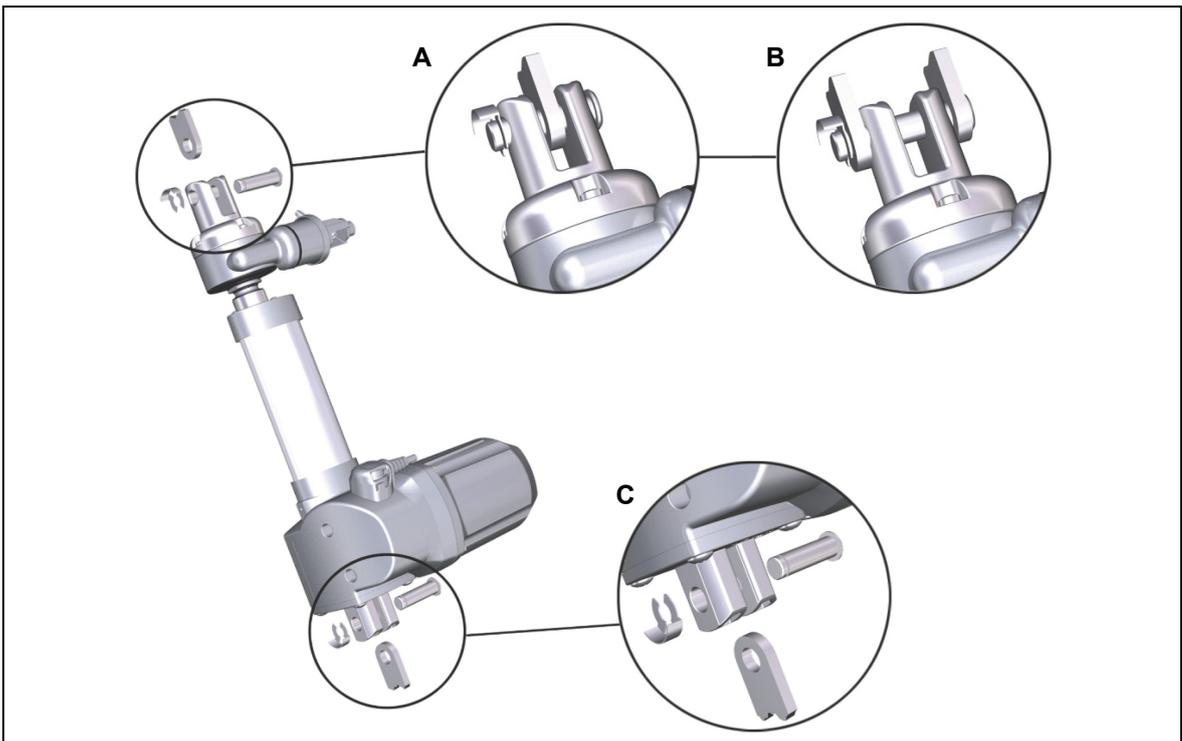

Figure 19 Recommended design of bracket
The brackets should be aligned precisely with each other. We recommend that only one mounting bracket is used on both sides of the drive (as shown by **A** in Figure 19). When two mounting brackets are used, there is a greater risk that they are not properly aligned, resulting in a tilted drive unit.
The drive must be firmly attached, but there should also be a certain degree of movability at the mounting points. The drive must be mounted so that it is protected in all positions against twisting and bending. You can also use brackets with two mounting holes (as shown by **B** in Figure 19), but these must be exactly aligned so that the release force is not increased.
- ▶ We recommend: an oval slot (as shown by **C** in Figure 19) should have at least 2 millimetres of extra room.